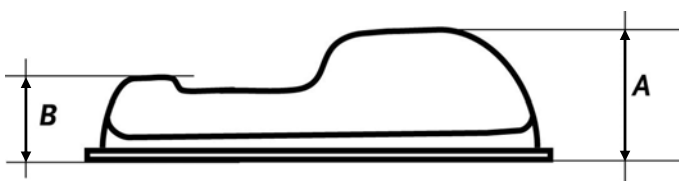

Figure 18
- Measure the Height (**Figure 18**) from the bottom to the top of the Mower Deck at the Reference Line. Make a note of it here as **HEIGHT A** _____.